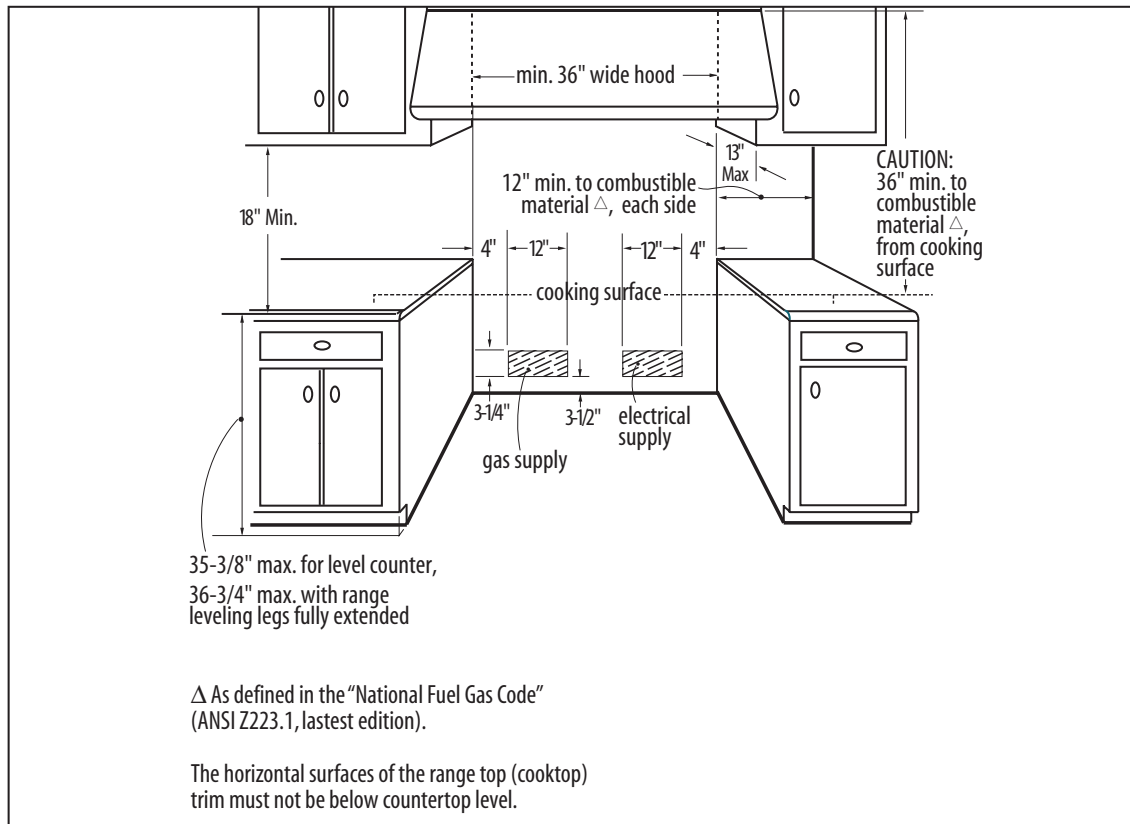
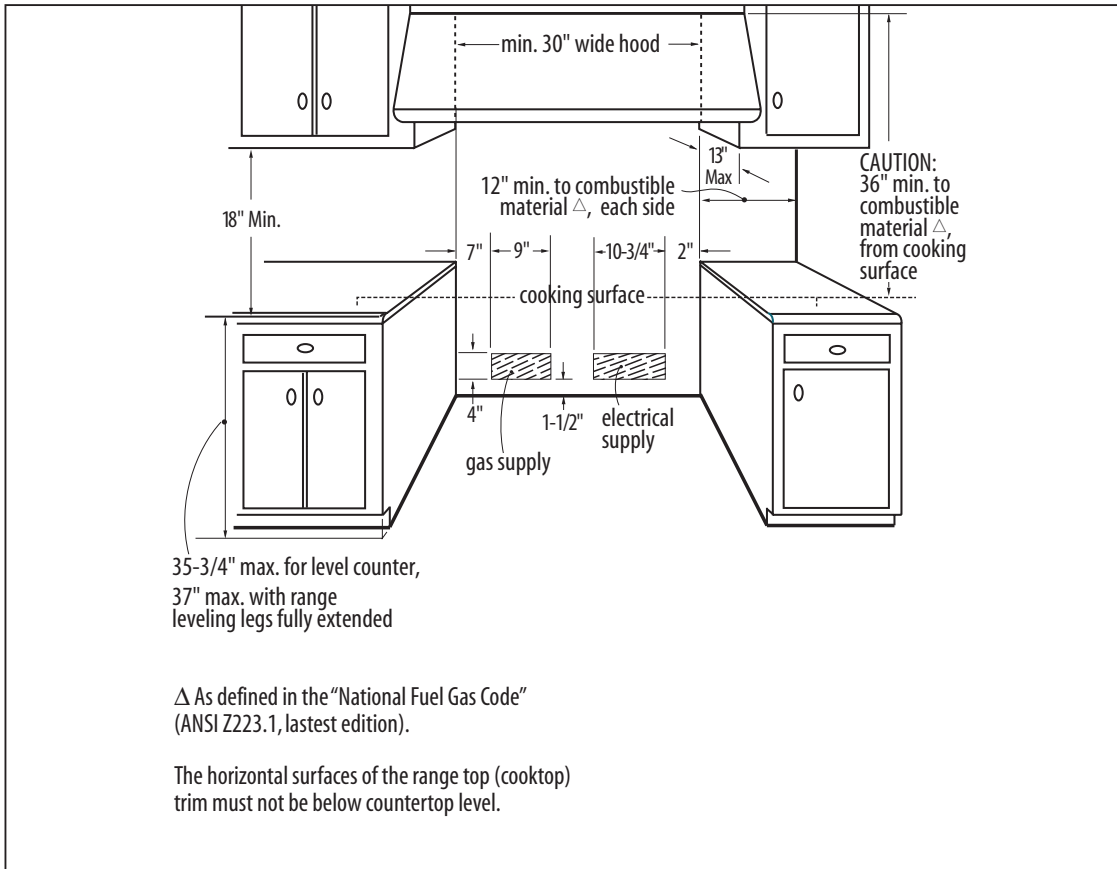

Fig. 9 PRD3630 Model Only
Fig. 10 PRD3030 Model Only
- 1) The range is a free standing unit. If the unit is to be placed adjacent to cabinets, the clearances shown in fig. 9 (PRD3630) & fig. 10 (PRD3030) are required. The same clearances apply to island installations.
- 3) The gas and electrical supply should be within the zones shown (fig. 9, 10 & 11).
Always disconnect electric supply cord from the wall outlet or service disconnect before servicing this appliance. Observe all governing codes and ordinances when grounding, in absence of which, observe National Electrical Code ANSI / NFPA No. 70-1990. The electrical supply must be a 120/240 volt, 3 wire (plus ground) 60 Hz single phase, 50 AMP circuit. The power receptacle must be a NEMA 14-50 device to accept the four prong plug supplied with the unit. The receptacle should be located within the area shown in fig. 9 page 9.
The electrical supply must be a 120/240 volt, 3 wire (plus ground), 60 Hz, 30 AMP circuit. The power receptacle must be a NEMA 14-50 device to accept the four prong plug supplied with the unit. The receptacle should be located within the area shown in fig. 10, page 10.